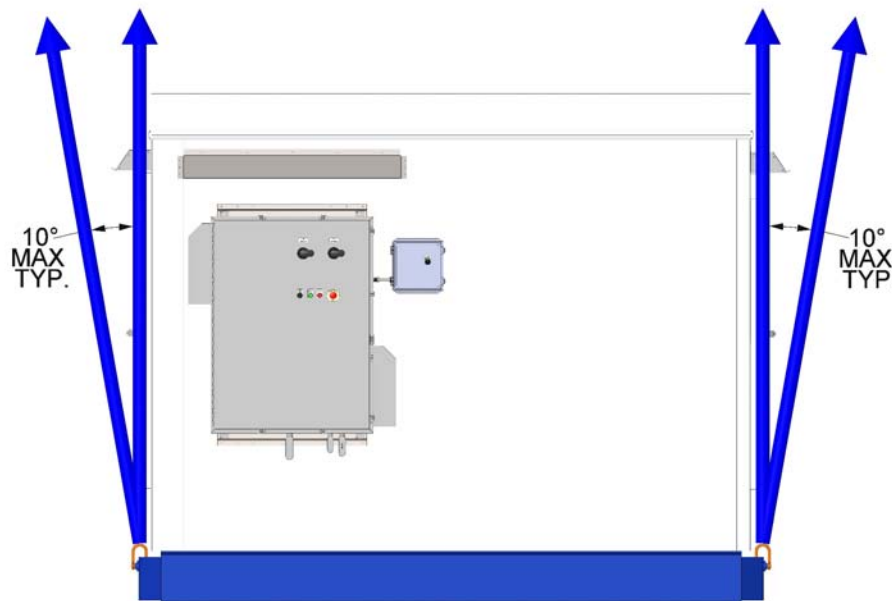

Figure 1.
- 2.2.7. When using spreader bars for lifting Colmac A+P Evaporators, ensure that the side lifting angle does not exceed 10 degrees from vertical. See Figure 1. below.